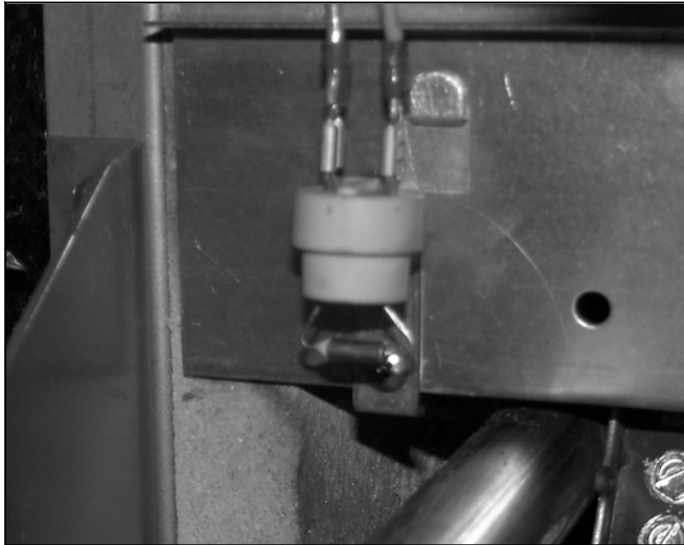

Figure 1: Flame Rollout Switch
- 3) All boilers except the CWD, BWC, and some Series 32 boilers are equipped with a flame rollout switch (Figure 1). This switch will shut the burners down in the event that flames exit the burner compartment through the front opening. The CWD and BWC use an electronic means built into the ignition system to extinguish the burner/s in the event that flames exit the combustion chamber. If the boiler fails to fire, call a qualified heating service agency to diagnose and correct the problem.